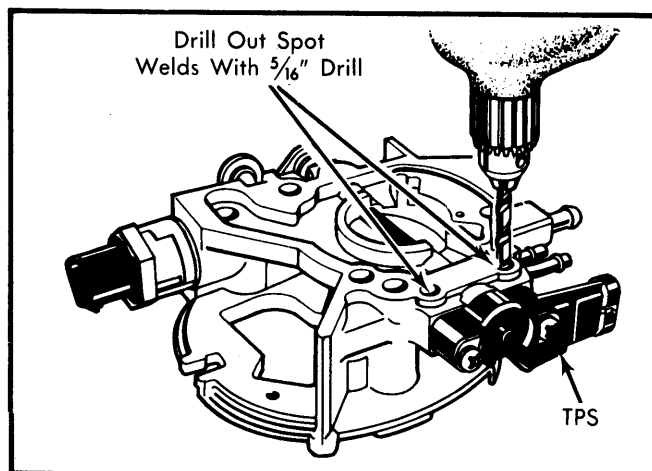

Fig. 6 Removing TPS Assembly (Throttle Body Inverted)
2) Invert throttle body assembly and place on clean, flat surface. Using a $\frac{5}{16}$ " drill, drill through each TPS screw access hole in base of throttle body to remove spot welds. See Fig. 6.